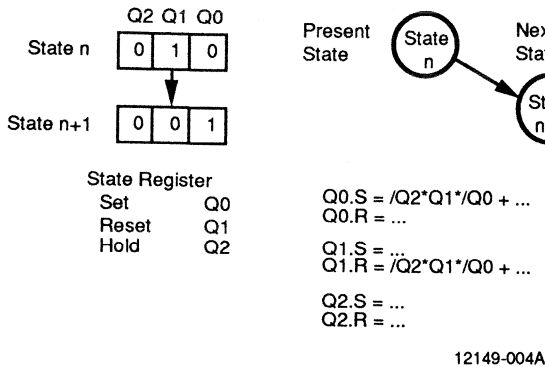

Figure 3. Typical State Transition
The details of device operation may be illustrated by the simple state transition indicated in Figure 3. The state register initially contains 010 and will become 001 after the next clock. In order for this to occur, state bit Q0 must be set, state bit Q1 must be reset and state bit Q2 must hold its value. For the S-R type flip-flops, the equation fragments listed (in PALASM syntax) produce this result. The Q0.S and Q1.R product terms detect the bit pattern for the current state (010) and produce a logic one, setting Q0 and resetting Q1. All other terms evaluate to a zero, producing the transition to state 001.